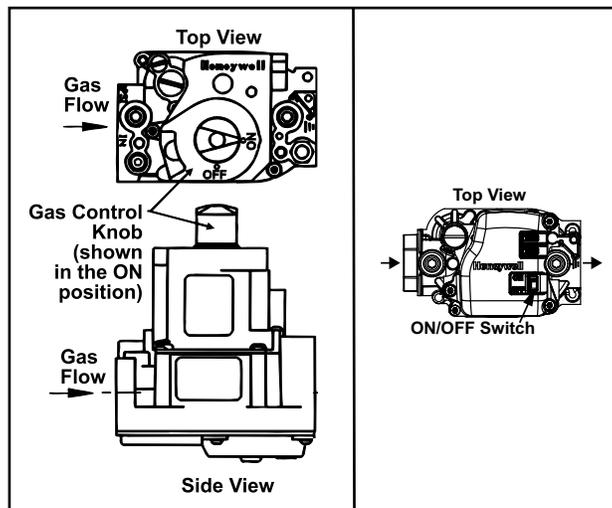

Figure 18. Gas Valve ON/OFF Control
3. Open access door and locate gas control (ON/OFF) knob or switch on gas valve (see Figure 18).